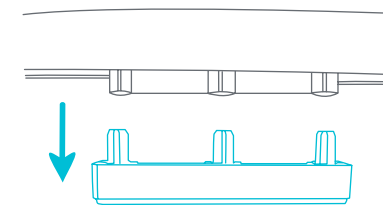

Fig. 15a
- **REMOVAL:** To remove, pull out the stopper (Fig. 15a).